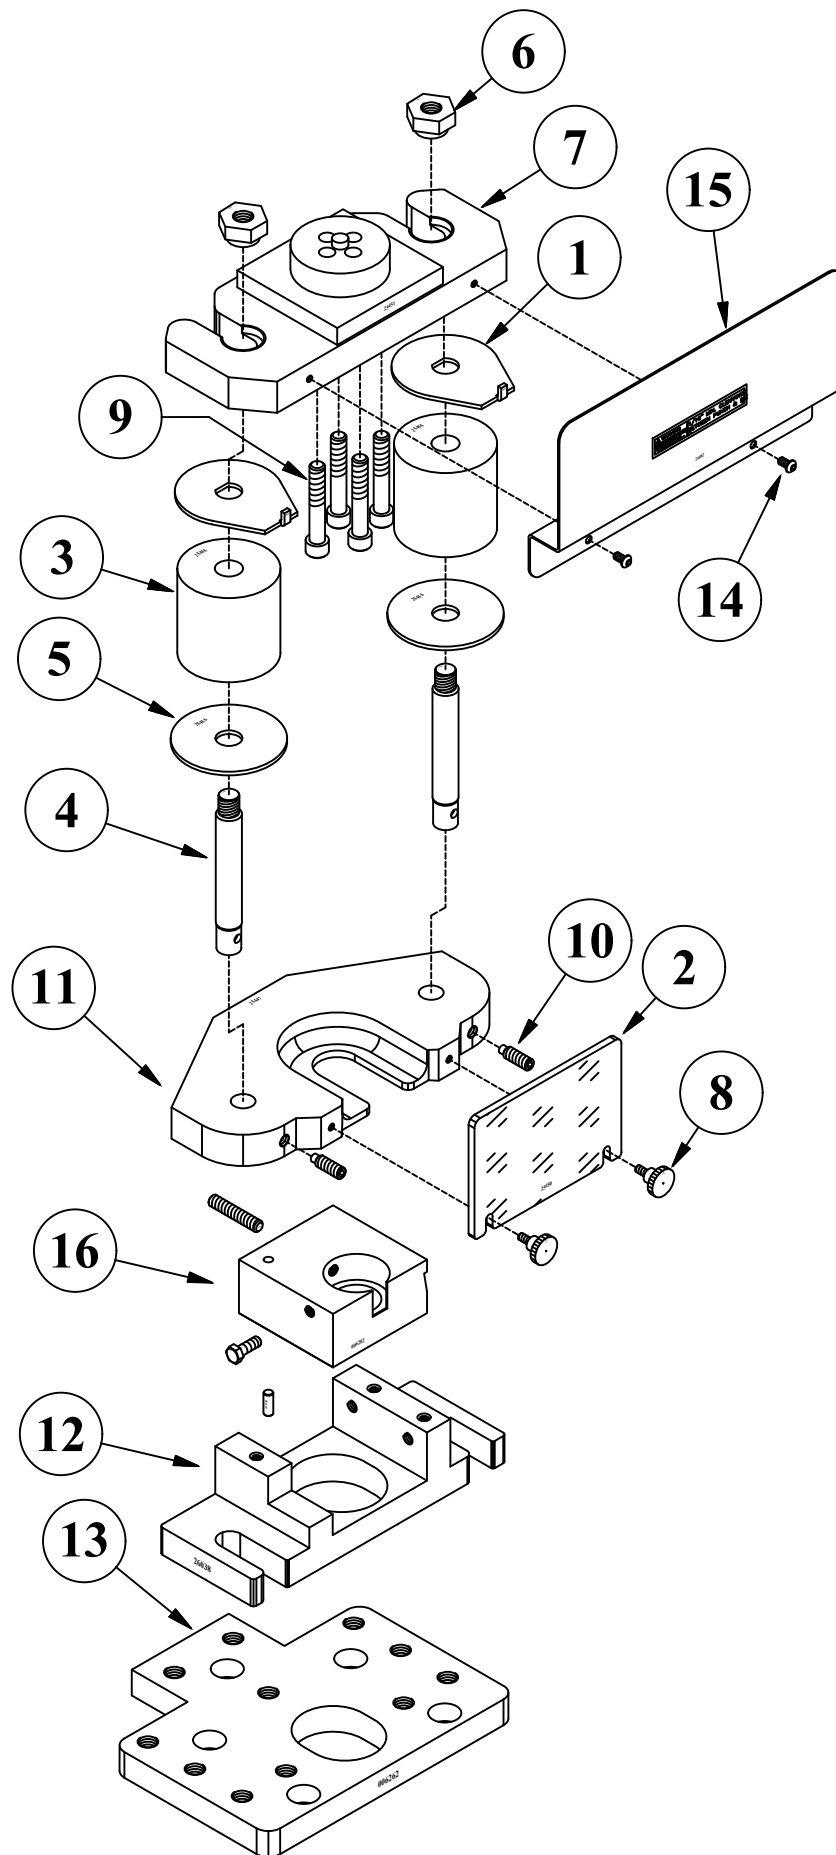

FIGURE 42
- 1. Remove the Shear Table (K) and unlock the lock nuts on the back-up screws (E).**
- 2. Loosen the four socket head retaining screws (D) that hold the lower blade support (C) to the top of the Shear Bed and remove the blade and the lower blade holder.**
- 3. Lower the Shear Arm to the full down position. Replace the Shear Blade and the lower blade support. Place a business card or shipping tag (approximately .010 in. thick) between the blades one at each end of the blades and one in the middle. Hold the blades firmly together and partially tighten the four socket head retaining screws (D) that hold the lower blade support (C) in place. Adjust the back-up screws (E) firmly against the lower blade support (C). (Do not tighten so as to compress paper shims between the blades.) Tighten the four socket head retaining screws (D) to approximately 100 ft.-lbs. torque and lock the back-up screws (E) with the lock nuts.**
- 5. This adjustment will give a blade clearance of .005 to .010 thousandths of an inch (.12 to .25mm). If the machine is being used to shear thicker sections of plate (1/2 inch (12mm) or thicker), we recommend increasing the clearance. A clearance of 5 to 7 percent of the material thickness is recommended. For recommended clearances, SEE FIGURE 42 ON THE FOLLOWING PAGE.**
- 6. Replace the Shear Table (K).**